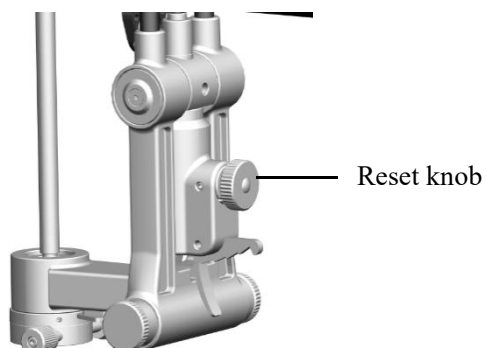

Figure 3.4.4
4. Offset illumination. Rotate the centering knob and rotate the slit width adjustment knob in the direction of the arrow to offset the illumination light from the center of the microscope field of view. This is mainly used for indirect inverse illumination methods to check the eyes. Rotate the centering knob and the slit light returns to the center of the field of view (see Figure 3.4.4).